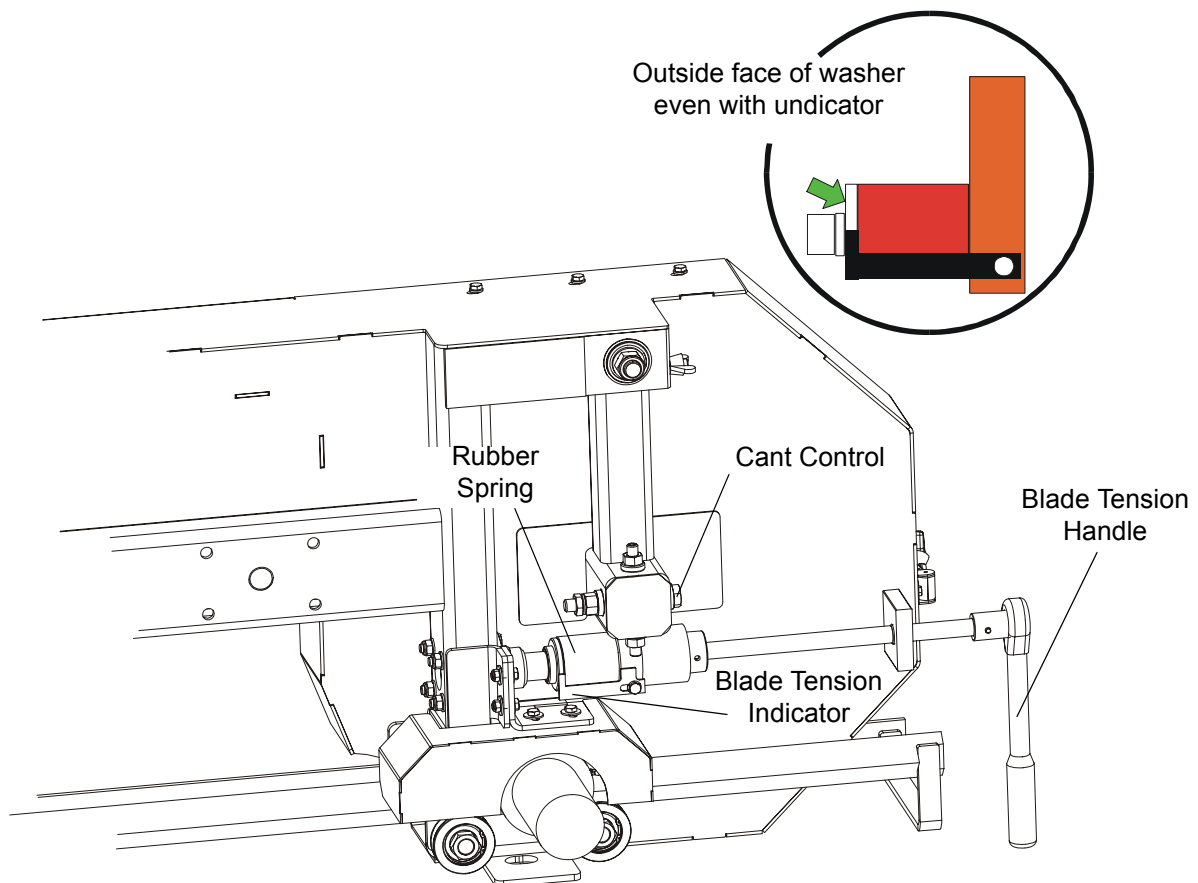

FIG. 2-8
See **Figure 2-8**. Turn the blade tension handle clockwise to compress the rubber spring and tension the blade. Check the blade tension occasionally when adjusting the cant control or while cutting. As the blade and belts heat up and stretch, the blade tension will change. Also, ambient temperature changes can cause tension to change. Adjust the tension handle as necessary so that the indicator is parallel to the blade guide arm.
5. Use the cant adjustment bolt, shown in **Figure 2-8** to adjust where the blade travels on the blade wheels.